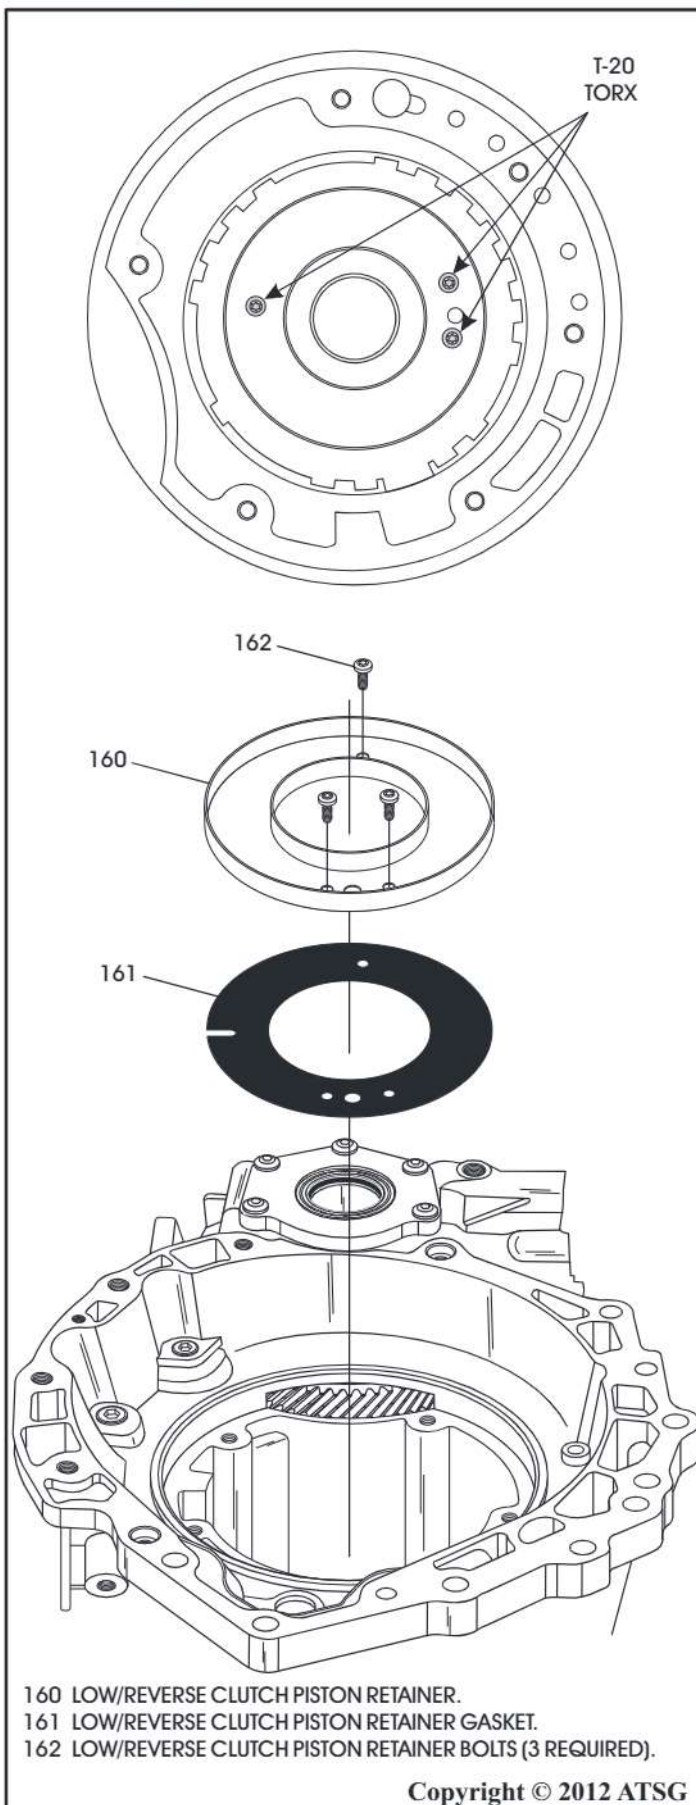

Figure 110
41. Install low/reverse clutch piston retainer gasket in case, as shown in Figure 110, and align holes in gasket to holes in case.
42. Install the new low/reverse clutch piston retainer into case, as shown in Figure 110, and align holes.
43. Install the 3 Torx retaining screws, as shown in Figure 110, and torque to 5 N·m (45 in.lb.) using a T-20 Torx bit.